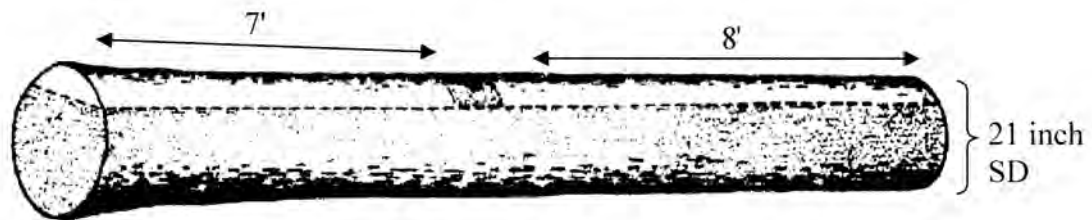

Figure 8. Example of an F1 grade, 16-foot butt-log. Adapted from Rast and others, USDA Forest Service, 1973.
Clear cuttings are sections of clear wood or defect-free stem in a grading face (Figure 8). These sections are used to establish the grade of a particular face. Clear cuttings involve two primary characteristics: (1) the number of cuttings present and (2) the length of each cutting. This information is used in Table 2 to establish a tree grade.
Figure 8 demonstrates the traits of an F1 grade 16-foot section of a butt-log. Assume the DBH is 26 inches. The SD would be $26 \times 0.80 = 20.8$ or 21 inches. Also assume the grading section in Figure 8 represents the second worst face. This face contains two clear sections of wood that are 8 and 7 feet long, respectively. In Table 2, a tree with these dimensions would need 8 total feet of clear wood in as many 2-foot or longer sections that are present to be an F3 grade. So, the tree is at least a grade F3. To make an F2 grade, the tree would need 10.7 total feet of clear wood in three or less sections that are at least 3 feet in length. So, the face is at least an F2 grade. To make an F1 grade, the face would need 13.3 total feet in two or less sections that are at least 3 feet long. Since this face meets these requirements and it is the second worst face, the tree is an F1 grade tree. This example demonstrates that the size of a tree greatly affects its ability to be an F1 grade. A very important consideration for large diameter trees is that if they are old trees (> 80 years), they may be hollow in the center, which would degrade and devalue the tree.